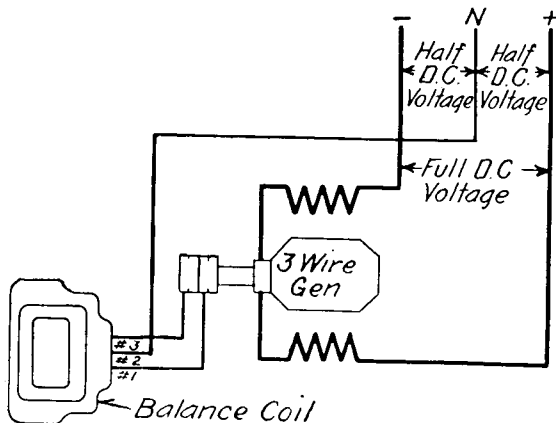

FIG. 1—DIAGRAM SHOWING CONNECTIONS OF BALANCE COILS FOR THREE-WIRE D.C. GENERATORS, 125-250 VOLTS
**Three-Wire Generators**—Any of the above types can be made into a three-wire generator. In this modification equidistant taps are made in the armature winding and carried to collector rings at the end of the armature. The rings are connected through sliding brushes to a choke or balance coil. The middle point of the coil constitutes the neutral point to which the third or neutral wire of the system is connected. A practically constant voltage is maintained between the neutral and outside wires which is one-half the generator voltage. See Fig. 1. Two collector rings and one balance coil are used. Three-wire operation requires that one-half the commutating field and series field windings, if any, be connected on each side of the line in order to main-